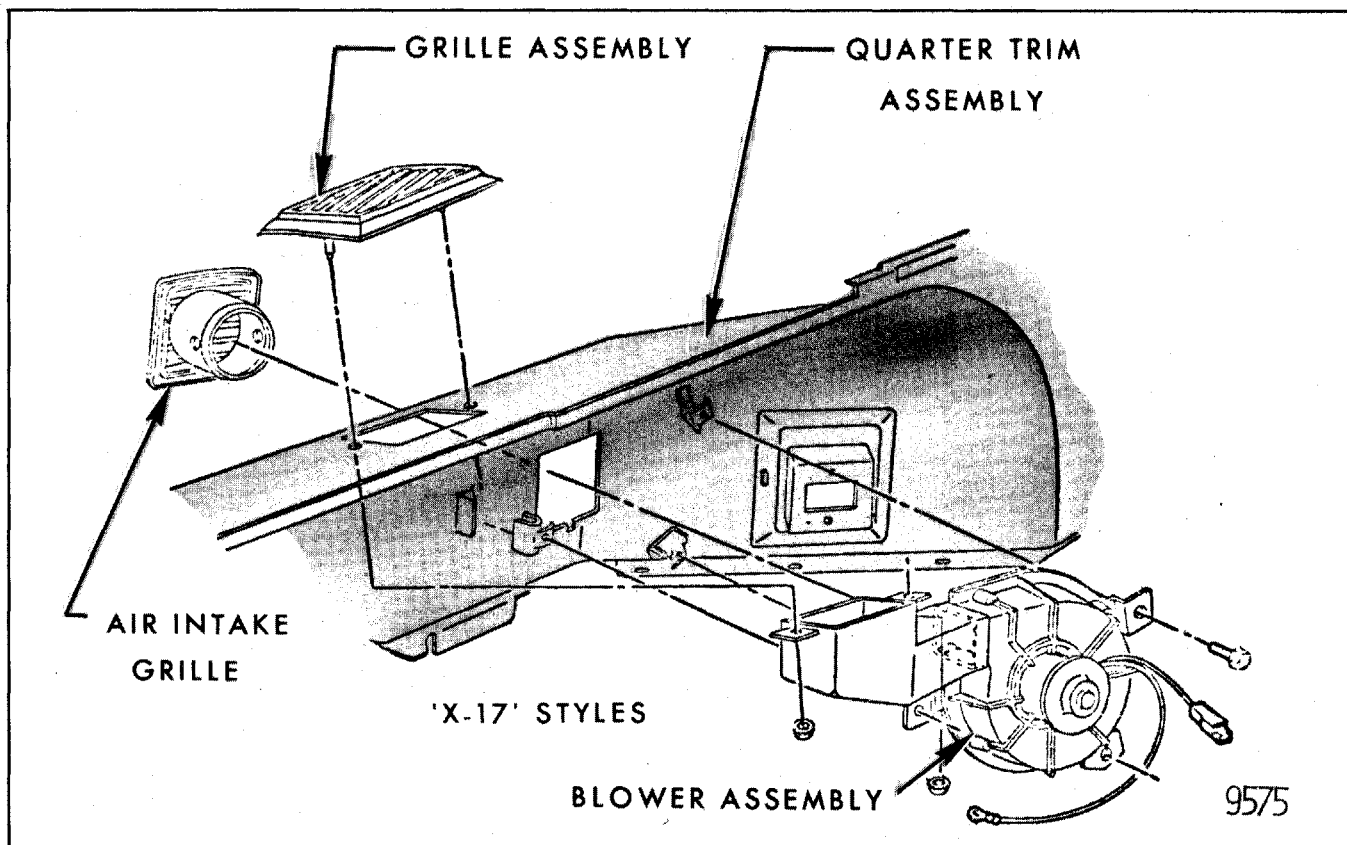

Fig. 6-28-Back Window Defogger - "X-17" Styles
Air is drawn into the motor assembly adaptor or duct at the intake grille and forced out through the outlet grille against the back window at the top or side of the quarter trim assembly (see Fig. 6-28).
3. On "X-17" styles, remove three attaching nuts from blower adaptor studs to separate blower assembly from adaptor. Then remove two attaching nuts from both intake and outlet grilles to complete disassembly (refer to Fig. 6-28).